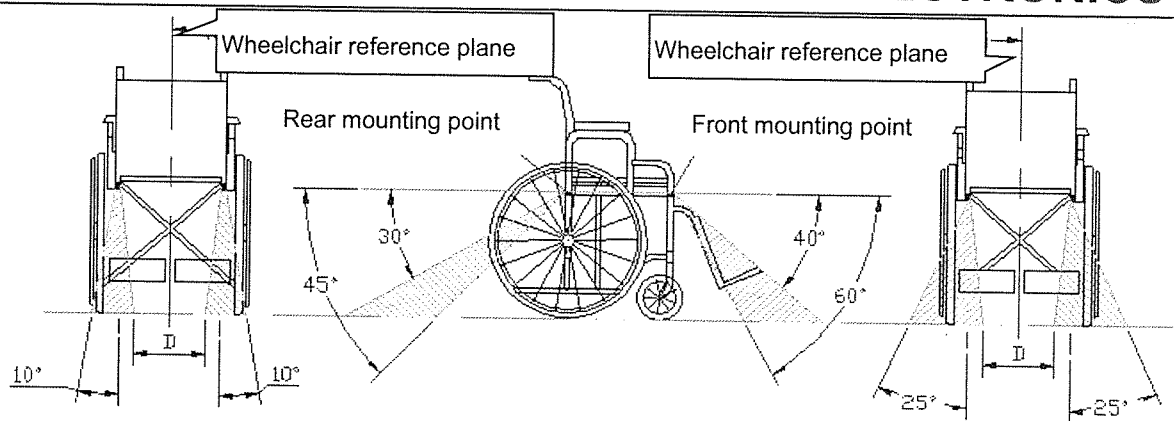

Figure 5.2.2
Distance can be decided according the belt's angle as figure 5.2.2:
- The best angle of protection for system can be seen from figure 5.2.2;